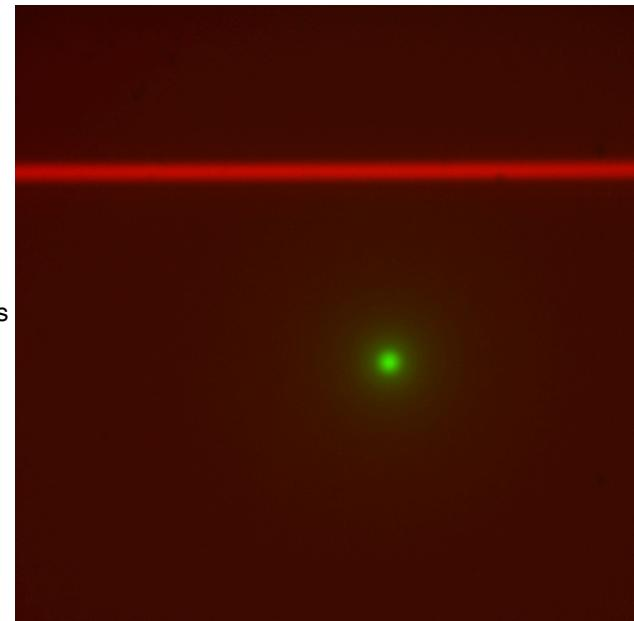

Figure 28:
**End goal:** Both beams uniformly in/out focus15) and horizontal (in the Live mode window), as in Figure 28. The video is cued up to demonstrate adjusting the tilt of dichroic.
Though not necessary, some may prefer to close the scanner iris to achieve a pencil beam as seen in Figure 28 so that the waist of the beam is not distracting.